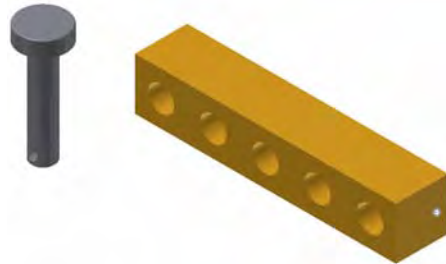

Figure 9: A clevis pin and a bar full of holes
1. Create a part, such as the simple clevis pin shown in figure 9.